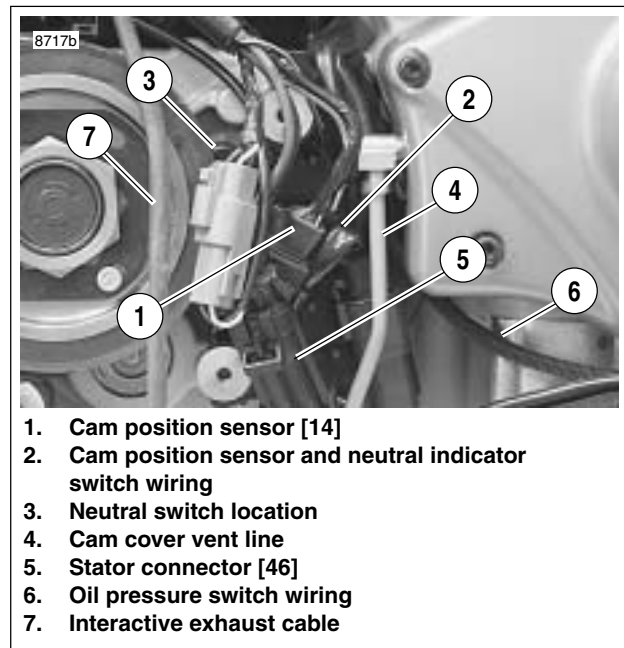

Figure 7-92. Cam Position Sensor Wiring
2. Connect stator connector (9).
3. See Figure 7-92. Connect cam position sensor [14] (1). Form a loop (2) as shown using wiring leading to cam position sensor.